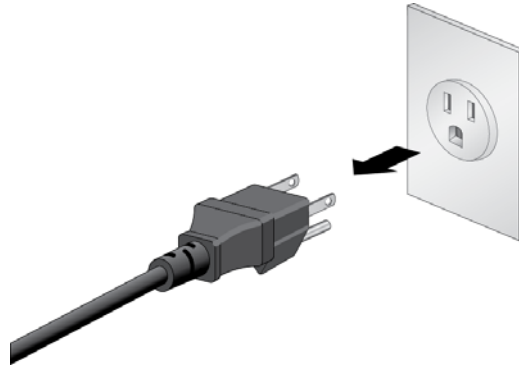

Figure 65. Powering Off the Switch
1. Power off the switch by disconnecting its AC power cord from the AC power sources. Refer to Figure 65 on page 117.